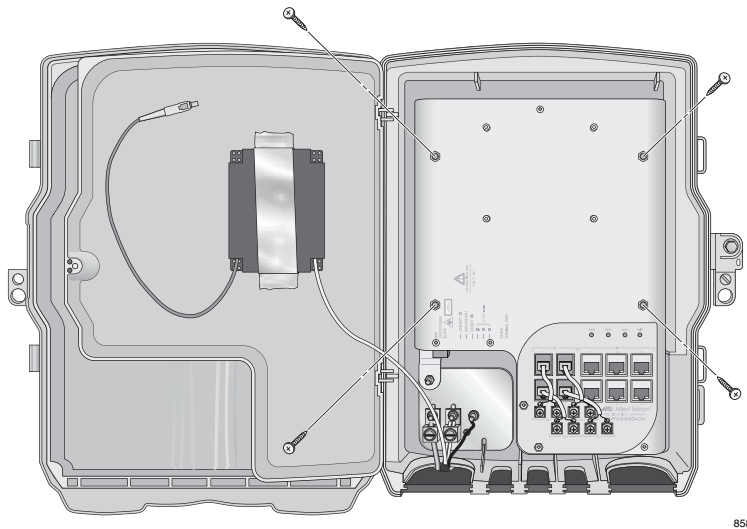

Figure 33. Mounting the Gateway
6. Mount the gateway in the enclosure with four self-tapping pan head Phillips screws from the accessory kit, as shown in Figure 33, starting with the upper right corner.